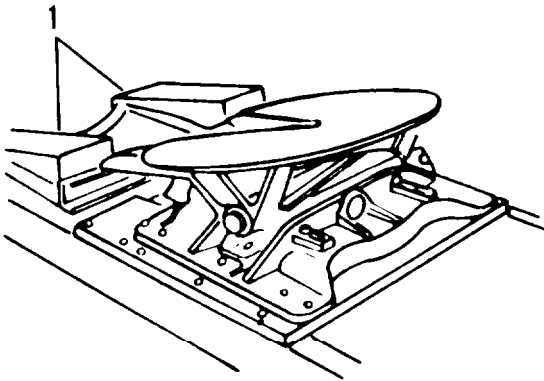

Figure 2-23. Fifth wheel and approach ramps
- (4) Release semitrailer kingpin from towing vehicle fifth wheel.
- (5) Slowly drive towing vehicle forward until semitrailer is clear of approach ramps (1, figure 2-23).